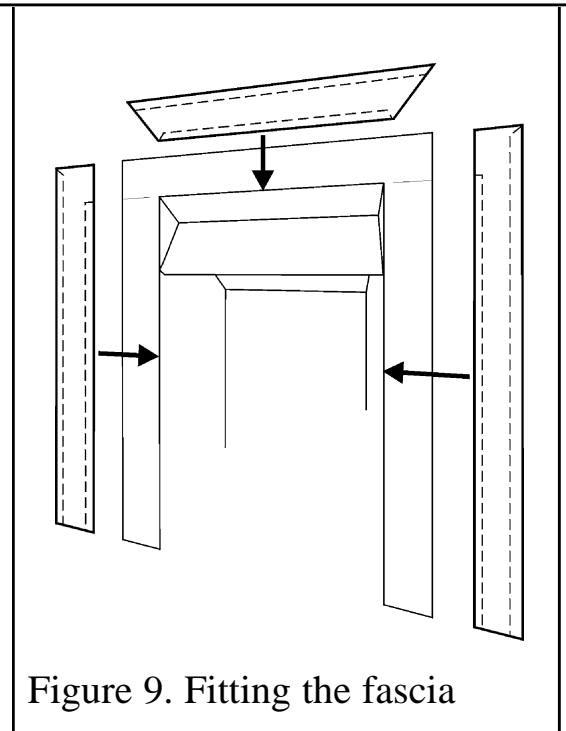

Figure 9. Fitting the fascia
1. The fascia is supplied in three pieces. Remove any protective film. The two longer pieces are the left and right sides. The shorter piece is the top. The left and right hand pieces have folded edges, one of which is shorter than the other. This shortened edge should be fitted at the inner top on both sides. Fit the top piece last and centralise (See figure 9)